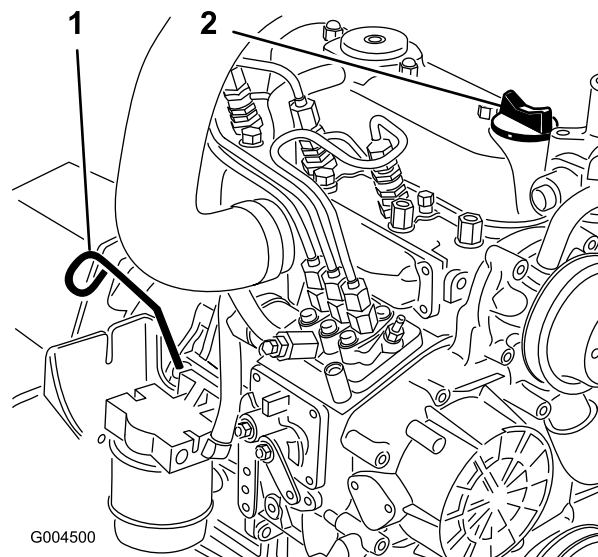

Figure 59
- Remove the dipstick (Figure 59), wipe it clean, and install the dipstick. Remove the dipstick and check the oil level.
- If the oil level is below the Full mark, remove the fill cap (Figure 59) and add oil until the level reaches the Full mark on the dipstick.